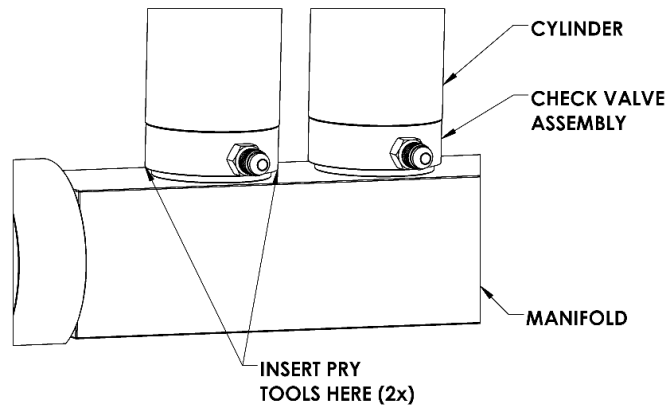

Figure 8 Removing the Cylinder and Check Valve Assembly
1. **Remove** the three cylinders and the three check valve assemblies from the manifold by **using** two large flat-head screwdrivers to **lift out** the check valve assembly and the cylinders from the pressure manifold (see **Figure 8** on next page).